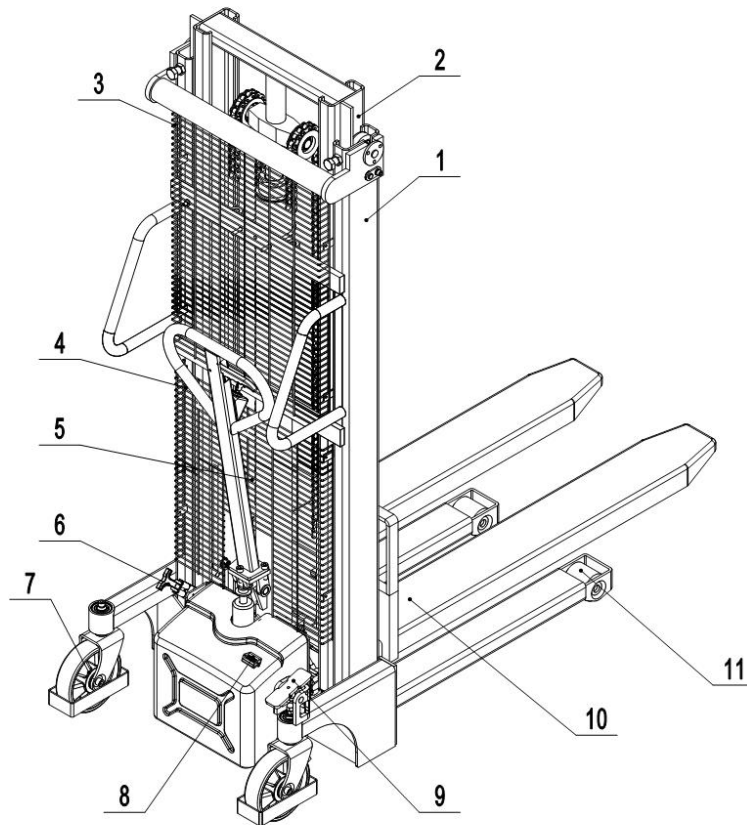

Fig. 1: Overview main components
- Use the truck without protective cover (Fig.1,3)